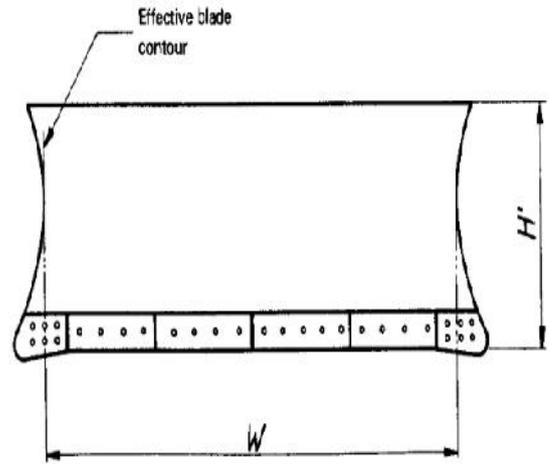

Figure 5 – Angling blade dimensions
**3.3.1 blade width,  $W$**  : Blade width, in metres (see figure 5).
**3.3.2 effective blade height,  $H'$**  : Vertical height, in metres, with the blade in the mid-pitch position (see figure 5).
**3.3.3 effective blade contour** : Simplified representation of the blade face for calculating the blade capacity based on the vertical plane bounded by  $W$  and  $H'$  (see figure 5).